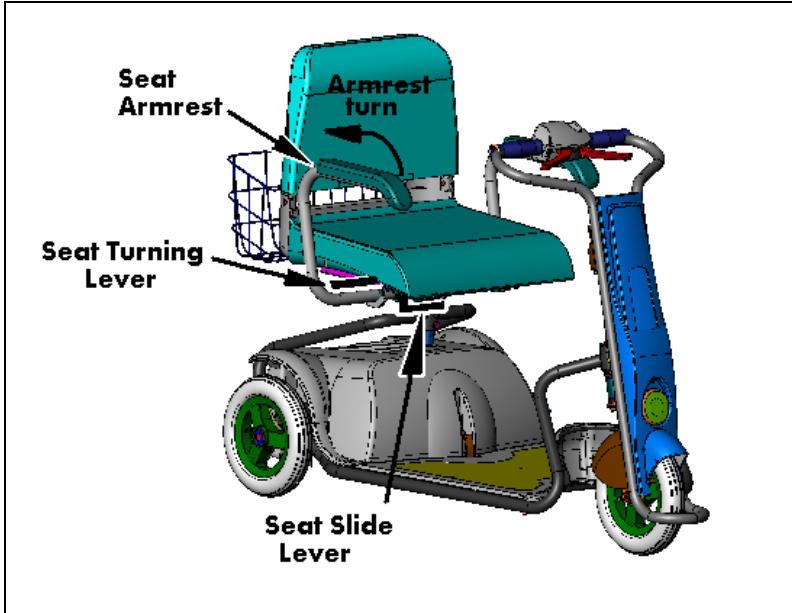

Figure 13
- a. For comfort entering into the **SUPERLIGHT** (See Figure 13).
- d. Use the **Seat Slider Lever** to adjust the **Seat** forward/Backward (See Fig. 13).